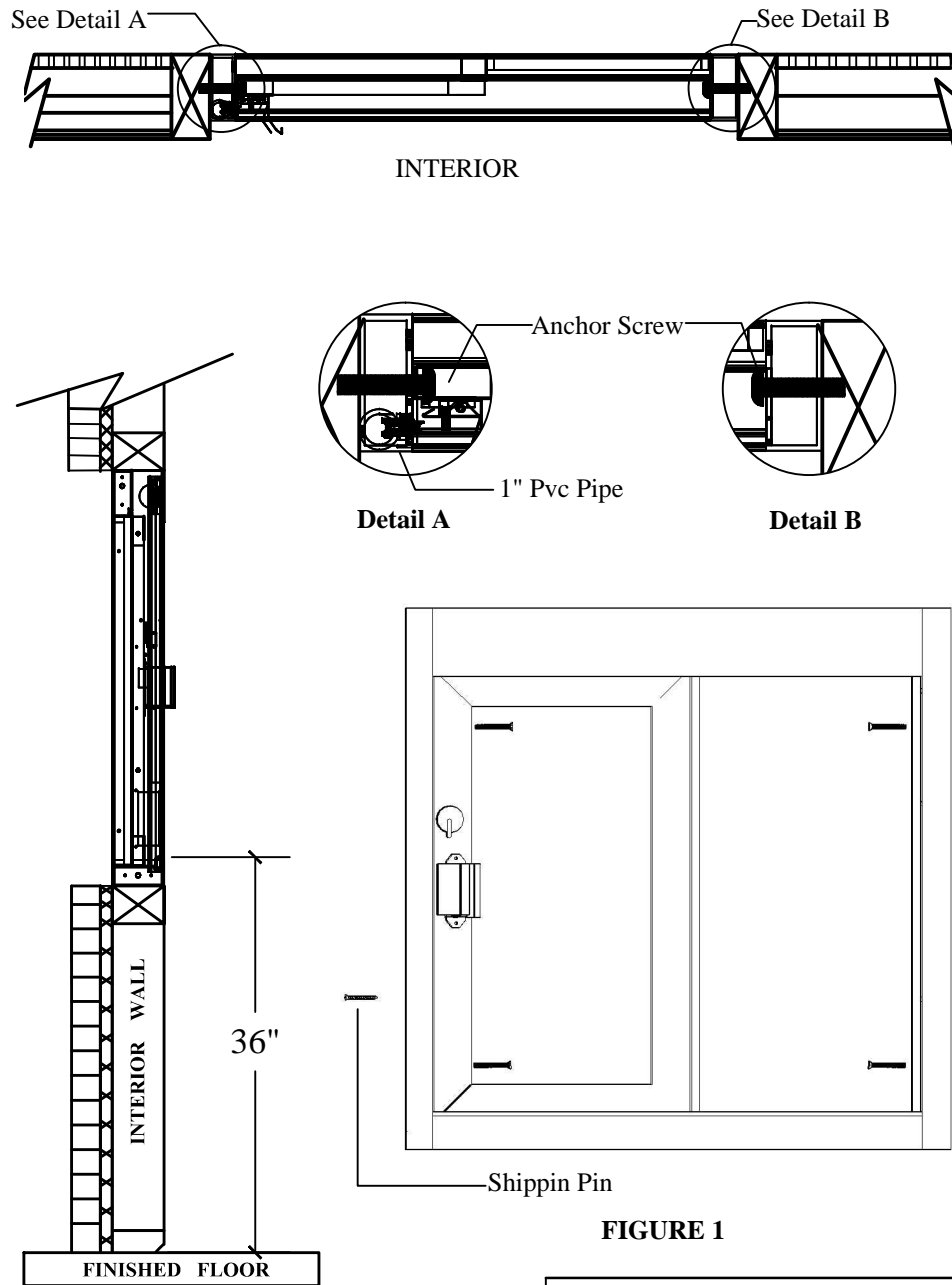

FIGURE 1
- 2) Anchor through each side jamb at two places approx. 5" at top and bottom of each jamb. (See Figure 1)
Remove shipping pin before installing the window. The shipping is located in the side jamb. (See Figure 1)